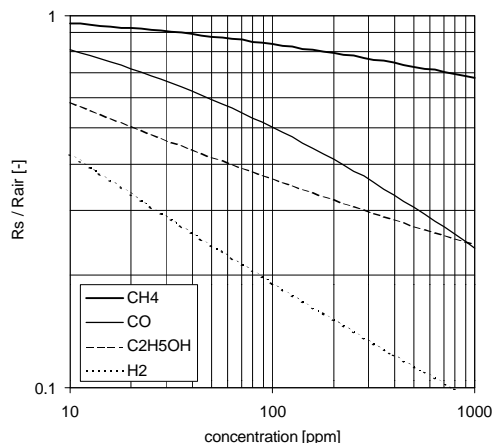

Fig. 8: Sensitivity to CO, H₂, CH₄, and C₂H₅OH at 25°C and 50% RH.
Figure 8 shows the sensitivity of the MiCS-5131 to CO, H₂, CH₄ (HC), and Ethanol (VOC). Depending on the location and on the traffic situation, gases from all three types can be present in a mixture. Since all these gases produce a decrease of the sensor resistance the presence of a mixture generates an even larger decrease. Therefore, the sensor signal is a reliable indication for the presence of pollution gases.